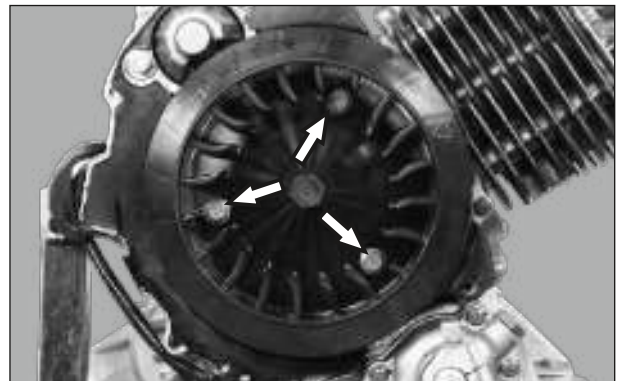

Fig. 3.143
- Tighten the 3 nos. Hexagonal flange bolt (M6x25) along with Plain washer and Spring washer on each bolt. (Fig. 3.143)